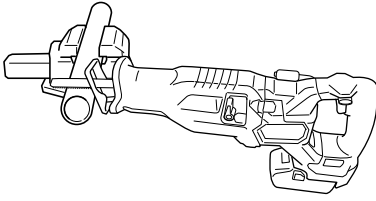

Fig. 27
- (1) Fasten a workpiece firmly before operation. (Fig. 27)